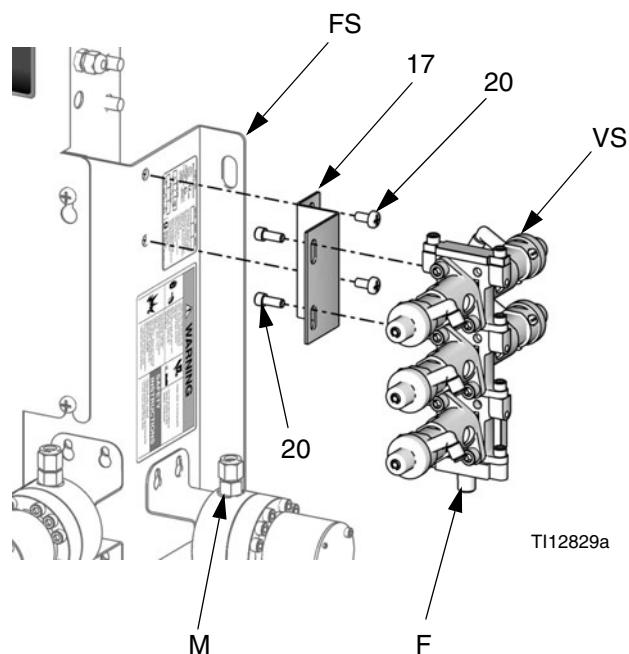

FIG. 4: Install Valve Stacks
1. Install the bracket (17) on the fluid station (FS) with two screws (20). See FIG. 4.
2. Install the color or catalyst valve stack (VS) to the bracket (17) with two screws (20).
2. Connect the hose (19) from the manifold stack fluid outlet (F) to the flow meter inlet (M). FIG. 4.